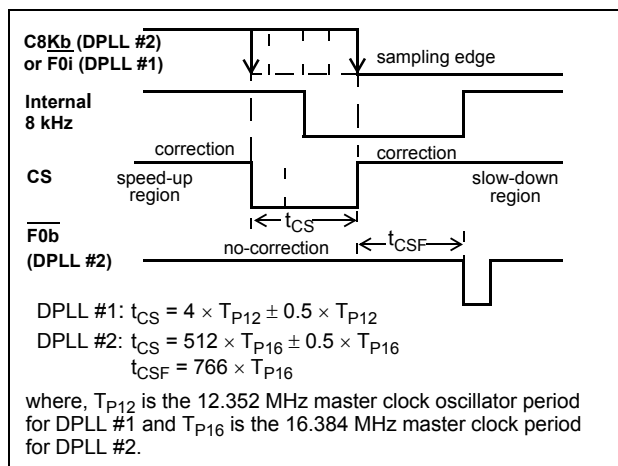

Figure 4 - Phase Comparison
As shown in Figure 4, the falling edge of the 8 kHz input signal (C8Kb for DPLL #2 or  $\overline{F0i}$  for DPLL # 1) is used to sample the internally generated 8 kHz clock and the correction signal (CS) once in every frame (125  $\mu$ s). If the sampled CS is "1", then the DPLL makes a speed-up or slow-down correction depending upon the sampled value of the internal 8 kHz signal. A sampled "0" or "1" causes the frequency correction circuit to respectively stretch or shrink the master clock by half a period at one instant in the frame. If the sampled CS is "0", then the DPLL makes no correction on the master clock input. Note that since the internal 8 kHz signal and the CS signal are derived from the master clock, a correction will cause both clocks to stretch or shrink simultaneously by an amount equal to half the period of the master clock.
The no-correction window size is 324 ns for DPLL #1 and 32  $\mu$ s for DPLL #2. It is possible for the relative phase of the reference signal to swing inside the no-correction window depending on its jitter and the relative drift of the master clock. As a result, the phase relationship between the input signal and the output clocks (and frame pulse in case of DPLL #2) may vary up to a maximum of window size. This situation is illustrated in Figure 4. The maximum phase variation for DPLL #1 is 324 ns and for DPLL #2 it is 32  $\mu$ s. However, this phase difference can be absorbed by the input jitter buffer of Zarlink's T1/CEPT devices.